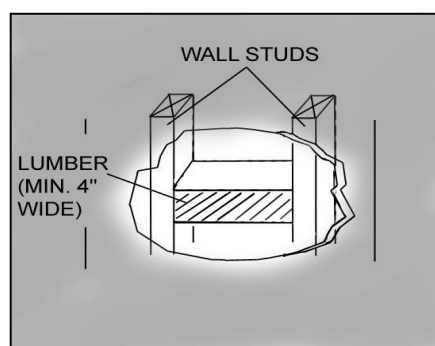

Figure 9
- If necessary, prepare back wall frame with cross framing lumber for secure installation. Using references on Table 2 and measurement on page 16 decide the level of the lumber. Refer to Figure 9.